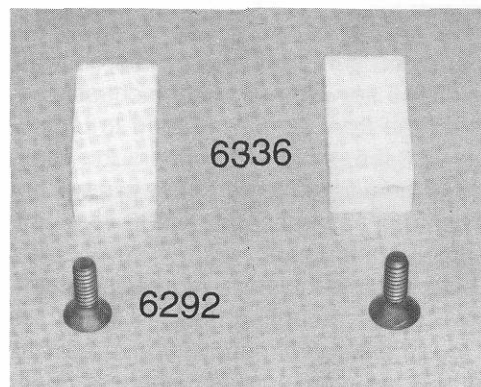

Fig. 156
□ **Figs. 156 & 157** In bag #6-6 you will find two #6336 nylon servo mounts and two #6292 4-40 x $\frac{3}{8}$ " FHSScrews. For now, we will temporarily install the servo mounts so we can mark them for drilling to fit your servo correctly. Fasten the servo mounts to the chassis with the two #6292 FHSScrews so that the thicker portion of the mount is towards the driver's side of the chassis. **Note:** The remaining steps will show installing the #8445 servo saver because this is the more complex installation.